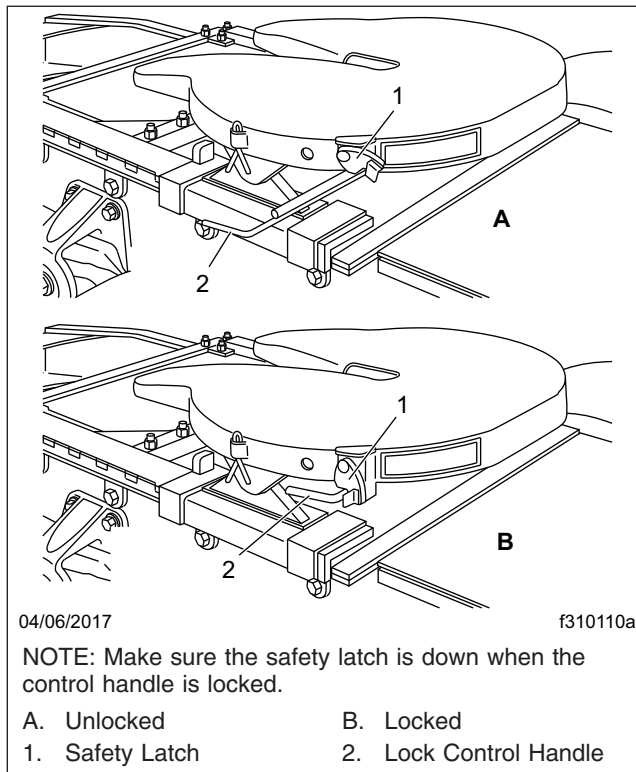
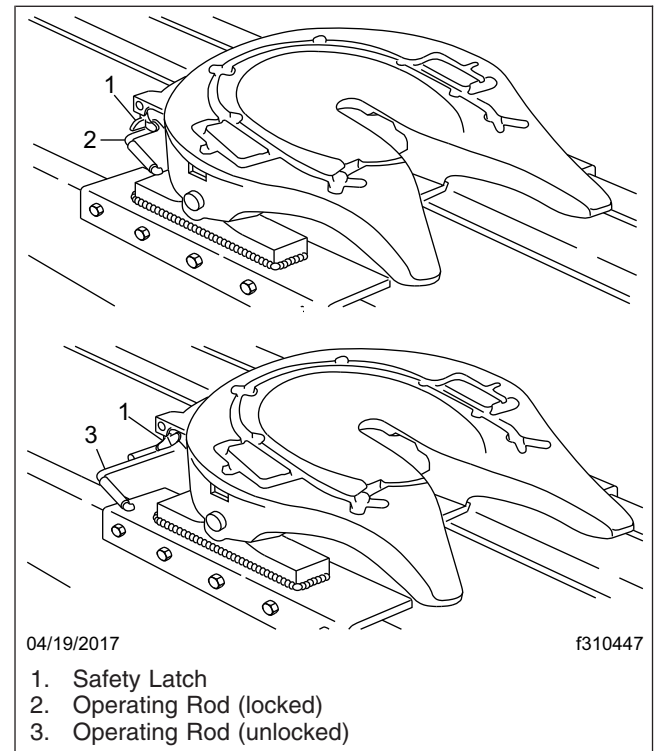

Fig. 17.2, Fontaine Locking Mechanism
Fig. 17.3, Holland Simplex SE Locking Mechanism
2. Ensure the fifth wheel jaw is fully open and the operating rod is in the unlocked position. See Fig. 17.2 or Fig. 17.3.
When lockup has occurred, the fifth wheel control handle moves to the locked position. Make sure that the safety latch is down over the lock control handle to hold the control handle in the locked position. (The safety latch will only rotate down if the operating rod is fully retracted in the locked position.) See Fig. 17.2 for Fontaine fifth wheels. See Fig. 17.3 for Holland fifth wheels.
- 6.1 **Fontaine:** Lift the safety latch and pull the lock control handle to the unlocked position. See Fig. 17.2.